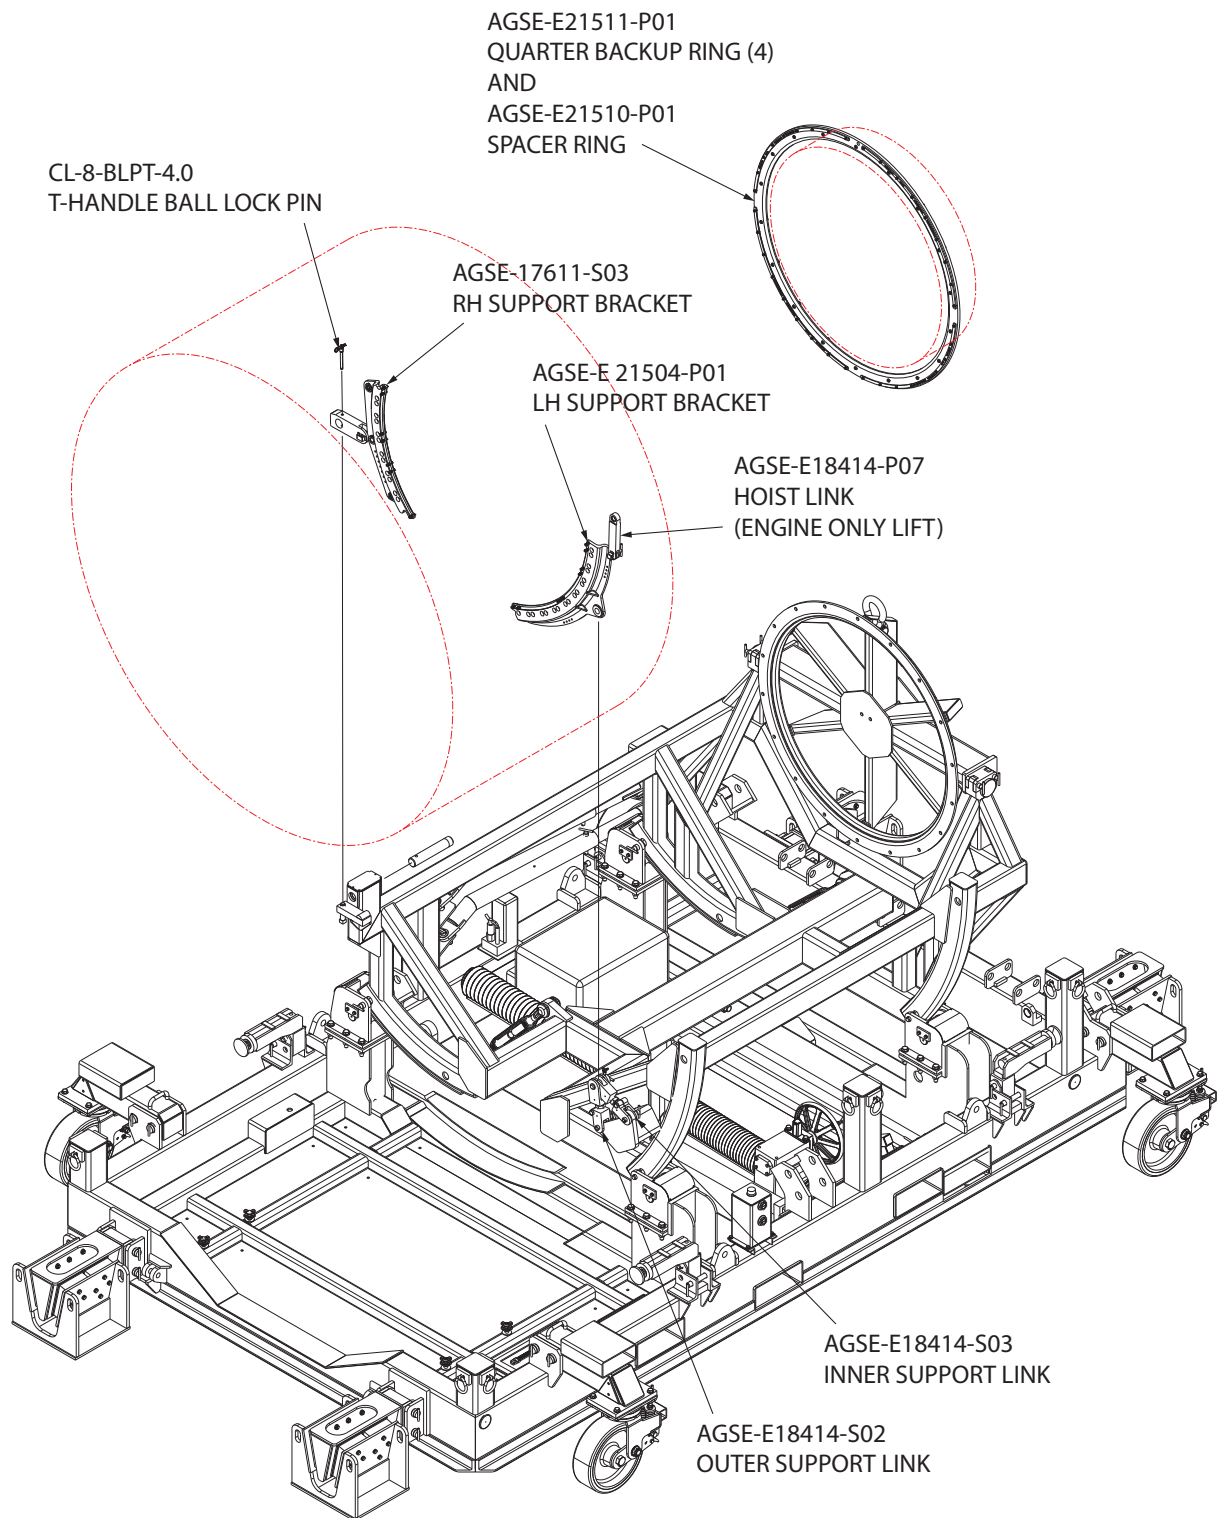

Figure 5.2-7 Engine Installation Onto Cradle
- 8) Lower the engine and align the spacer ring bolt holes with those of the strong back. Install the 18 strong back special lug bolts in a criss-cross pattern to connect the spacer ring to the strong back frame. The stand can be moved side to side by using the steering bars in the casters to swivel the casters to move the stand. The cradle can also be rotated slightly as required to align bolt holes. (Figure 5.2-7).